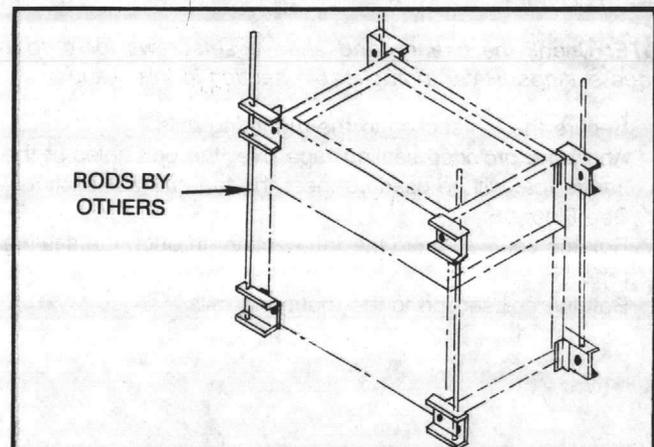

FIGURE 9 - Vertical Inverted Ceiling-Mounted Unit (T3 to T31)
1. Prepare the field-provided hanger rods and isolator assemblies, as shown in Figures 9 and 10, according to the unit mounting hole dimensions.